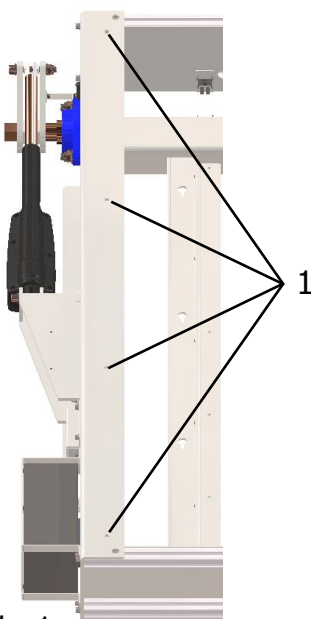

Abb. 1
2. on the top of the system you will find 4 holes for mounting on the ceiling (Fig. 1).